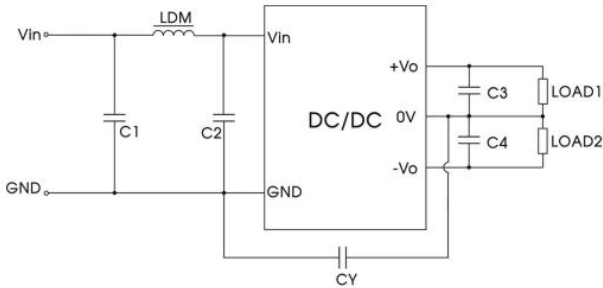

Figure 2: EMC Typical Recommended Circuits
Radiation disturbance	CISPR32/EN55032 CLASS B (The recommended circuit is shown in Figure 2)
- 2. EMC requirements: For situations with high EMC requirements, a typical EMC recommended circuit is shown in Figure 2.